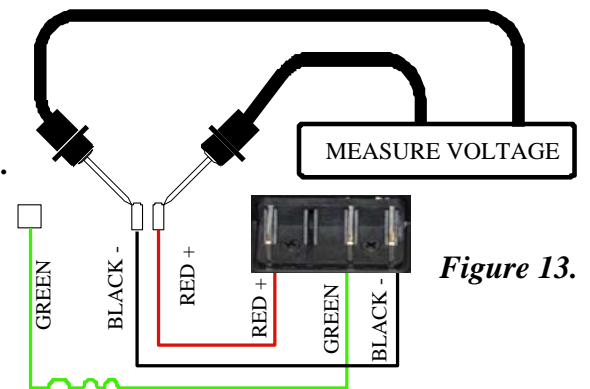

Figure 13.
5. Disconnect the power harnesses (5) from the controller.
7. Measure voltage across the red B+ and black B- wires. See figure 13.